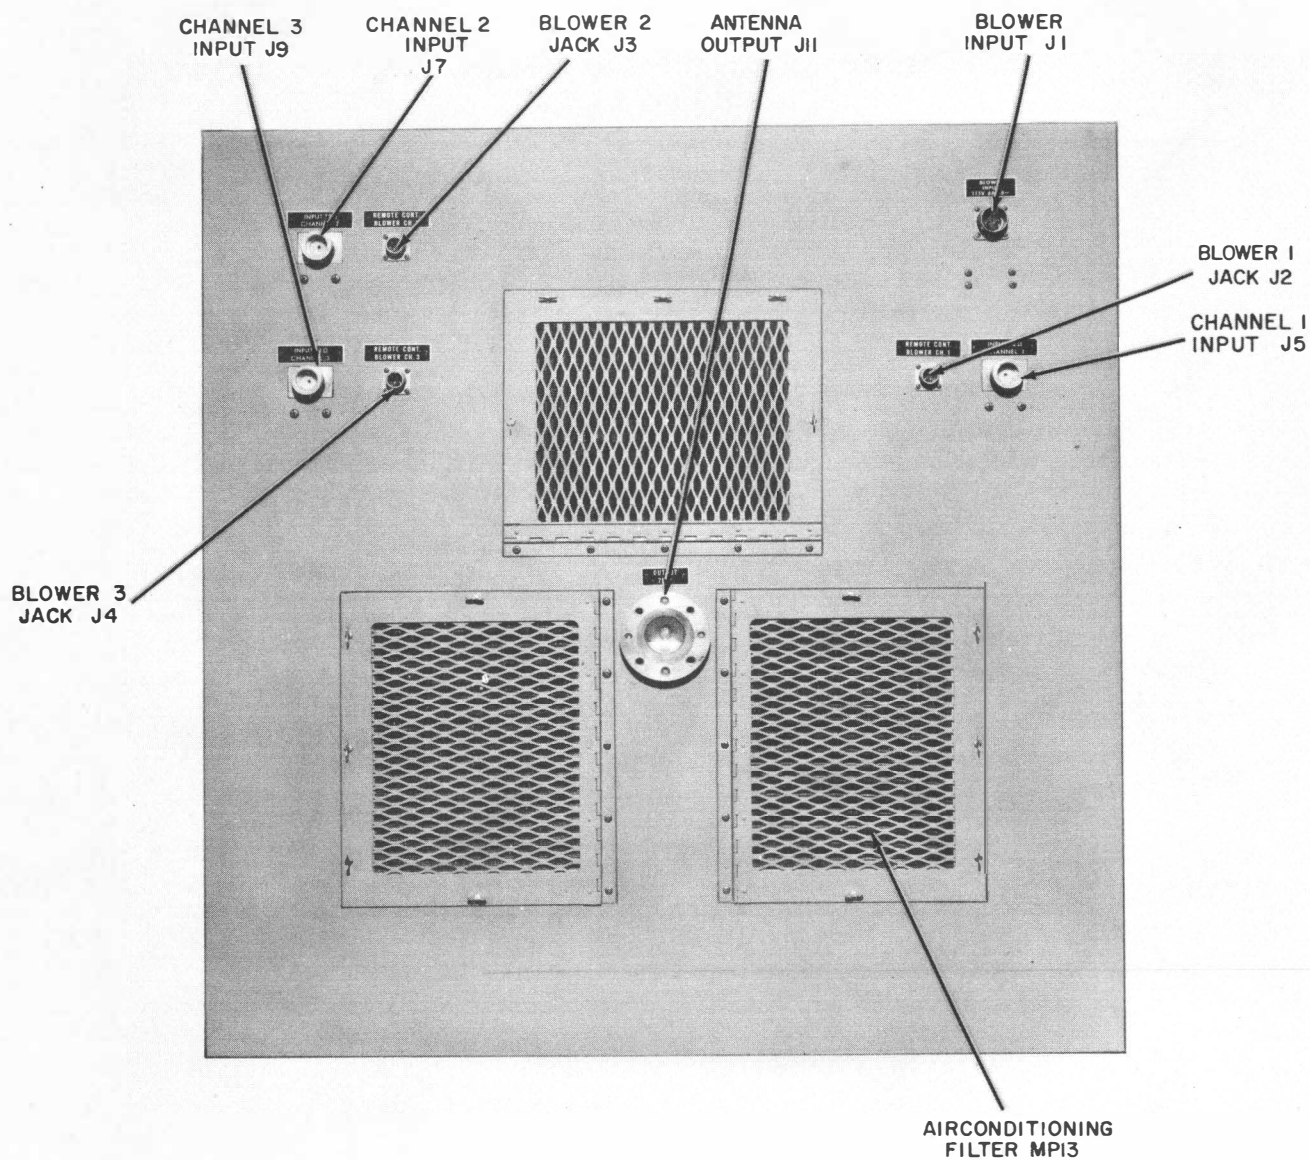

Figure 6-2. Antenna Coupler Group AN/FRA-49(V), Rear Panel Connectors
(1) Electrical connections for blower power and remote control relay power are secure and in correct positions (see figure 6-2).
(2) Relay control and protection circuit cables are connected.
(3) The air-circulating blower motor of each antenna coupler functions when the associated transmitter is energized.
(4) The air filter assembly is in place and proper blower operates.